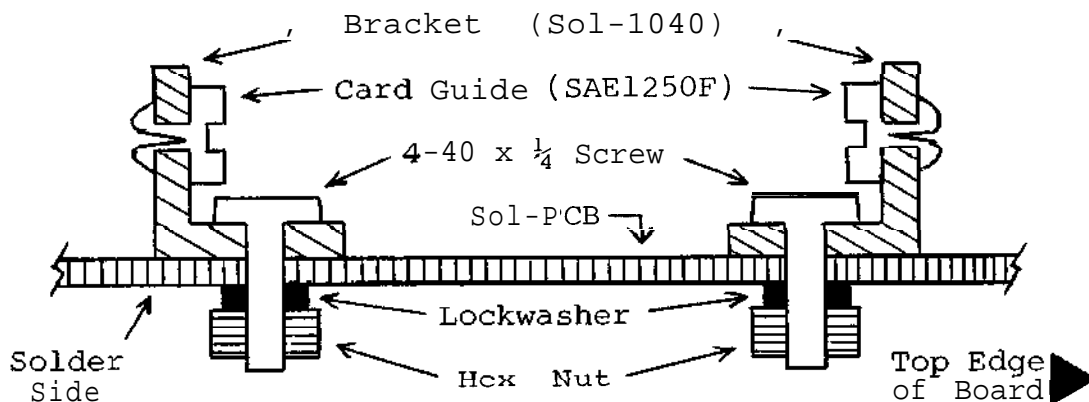

Figure 3-11. Personality module bracket/guide installation (Viewed from right end of Sol-PCB).
- () Step 45. Using four 4-40 x 1/4 binder head screws, lockwashers and hex nuts, install two brackets (Sol-1040) for personality module in area to right of J5. Position brackets over the mounting holes as shown in Figure 3-11. Insert screws from front (component) side of board, place lockwasher on each screw on back (solder) side of board, start nuts and tighten.
- () Step 46. Attach plastic card guide (SAE1250F) to each of the brackets installed in Step 45. (See Figure 3-11.) Insert posts on guides into bracket holes and push in until they snap into place.